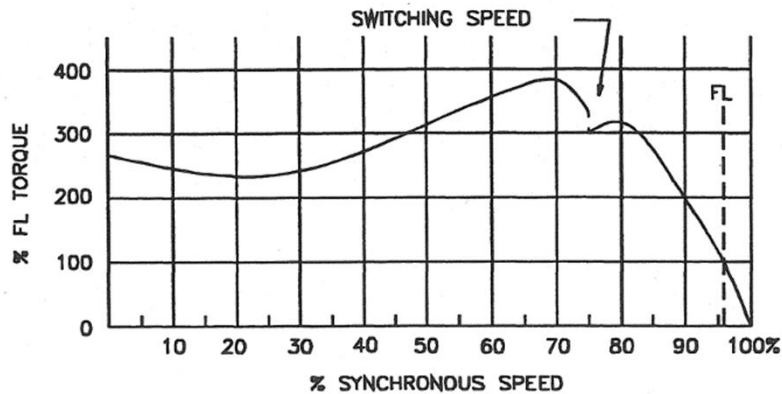

Figure 8 - Typical characteristic curve of a split phase motor
25. The starting torque of a split phase motor is relatively low because of the phase difference between the current in the stator winding and the current in the rotor winding. A typical characteristic curve for a split phase motor is shown in Figure 8.